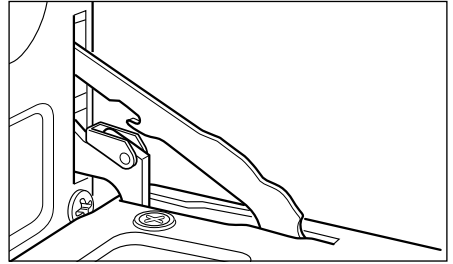
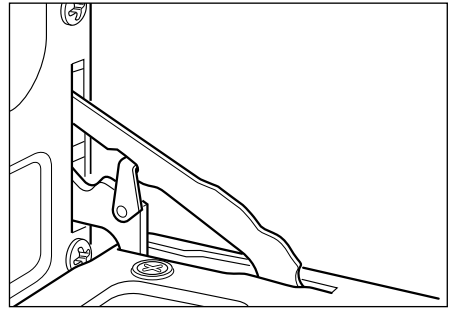

Fig.40a
Fig.40b
- The swivel retainers of the rh and lh hinges (Fig. 40a) are hooked onto the metal bar above them (Fig. 40b).